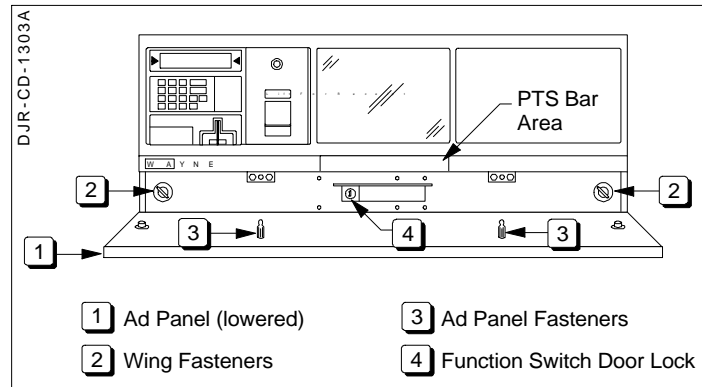

Figure 2-2 Wing Fasteners on Bezel
5. Turn the wing fasteners on the left and right side of bezel counter clockwise. Refer to Figure 2-2.